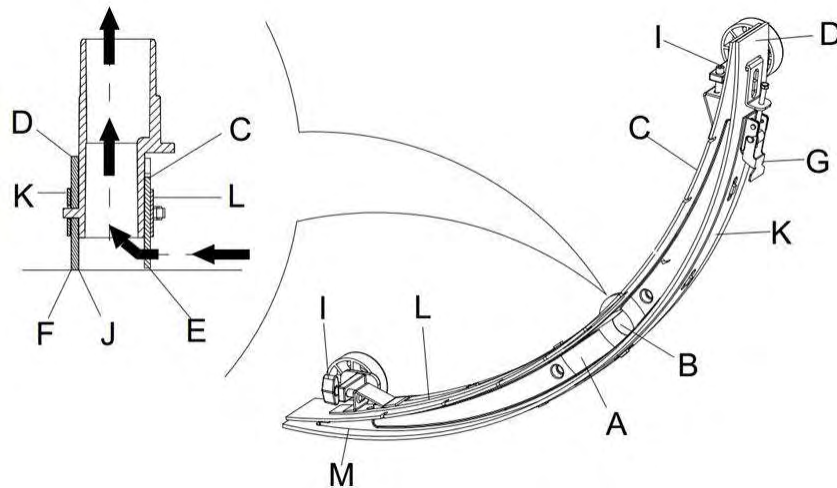

Figure 15
- Press the power switch (41) to the “O” position to turn off the machine.
- Unscrew the fixed handle (16) of the squeegee; take off the connector connecting the Recovery Vacuum tube of the squeegee, and take off the squeegee.
- Use the squeegee lifting handle (14) to lift the squeegee support frame.
- Clean the squeegee (**Figure 15**). Clean in particular the groove (**A, Figure 15**) and the dirt and fragments on the Vacuum tube. Check if the front squeegee blade (C) and the rear squeegee blade (D) are intact, and if there are broken edges and cracks. Change them if necessary (refer to the steps in the following section).
- Following the methods related in the previous section clean the squeegee (**Figure 15**)
- Check the edge (**E, Figure 15**) of the front squeegee blade and the edge (F) of the rear squeegee blade (D). On the whole length, they should be on the same level. Otherwise, adjust their heights through the following procedure.
- Loosen the clip (G) to let the rear squeegee blade (D) separate from the bracket (M) for the adjustment of the position of the squeegee. After the adjustment, lock the clip once again.
- Loosen the screw on the handle (I) to adjust the front squeegee blade (C); tighten the handle screw after adjustment.
- Check if the front squeegee blade (C) and the rear squeegee blade (D) is intact and if there are broken edges and cracks. If necessary, change them according to the following ways. Check the front edge of the rear squeegee blade (J) whether it has been worn. If worn, it can be installed upside down (the top edge is required to be intact). If the top edge is also worn, change it by following the procedure below:
- Loosen the clip (G) to let the pressure blade separate from the bracket (M), take off the clip bar (K), and then change or turn the rear squeegee blade (D) upside down. Re-install the rear squeegee blade in the reverse order of taking it off.
- Loosen the handle screw (I) and take off the front clip bar (L), and then change the front squeegee (C).